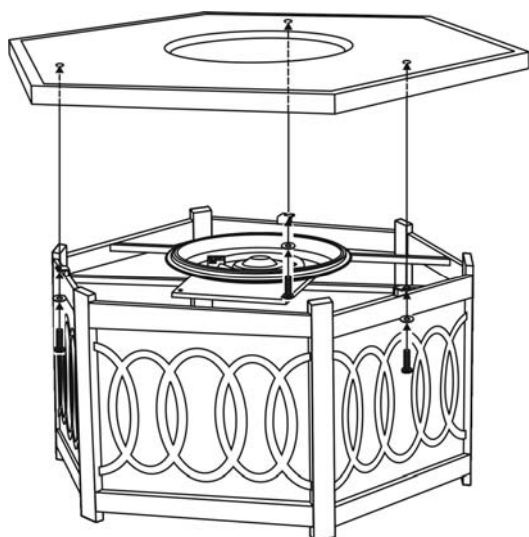
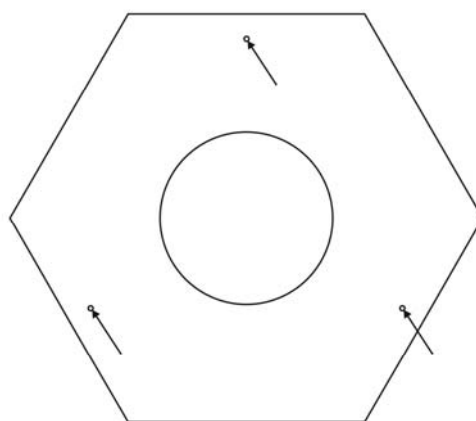

Figure 3
Figure 4
2. Place the tabletop on the base. Secure the tabletop to the firepit base using the bolts and washers that are provided. See Figure 3 and Figure 4.